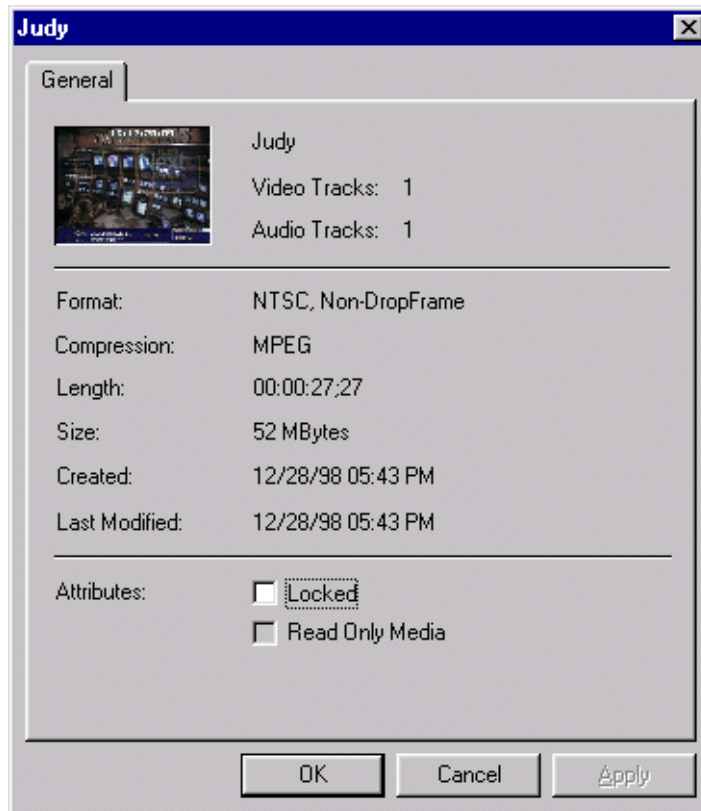

Figure 121. Properties dialog box
2. Choose **Properties** from the **Media** menu or from the shortcut menu with a right-click. You can also double-click the clip or master in the current bin. The Properties dialog box appears (see Figure 121).